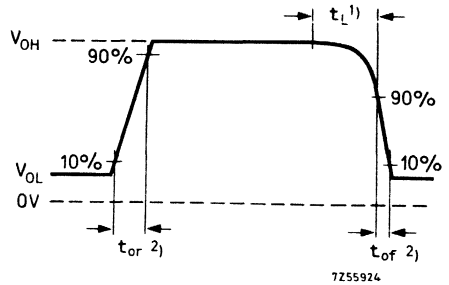
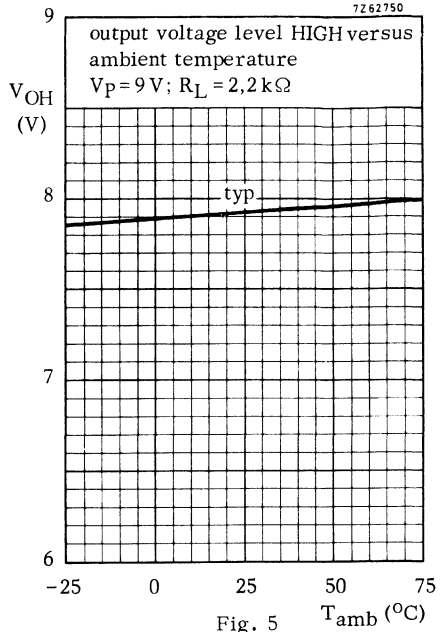
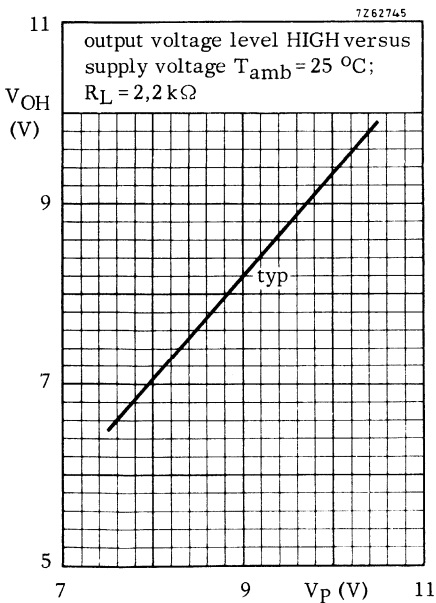

Fig. 3 Output voltage: V_O
Fig. 5
Fig. 6
2) See also Fig. 3 on page 5, Fig. 5 and Fig. 6 on page 6.
3) See also Fig. 3 on page 5.